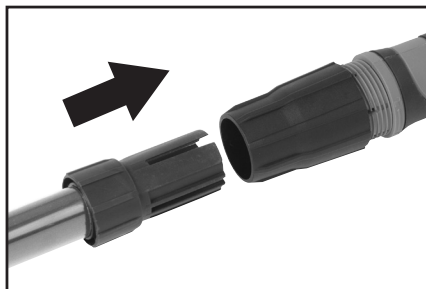

Fig. 4
- Slide the Extension Tube Ferrule up and into the main extraction tube/handle. (Fig. 4)